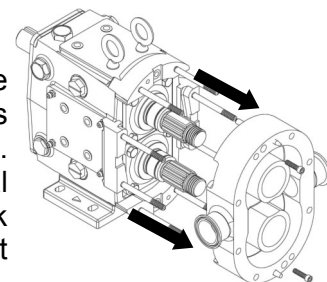

Figure 27: Removing Pump Body
5) Remove the two body hold down bolts using the appropriate driver. Then pull the pump body off by sliding it along the studs (Figure 27). If the body is stuck, use a soft mallet to tap the body. Inspect the body for excessive wear, clean, and continue on to seal maintenance. It is important to reassemble the pump body back onto the original gear case because the shafts are shimmed for that particular body.